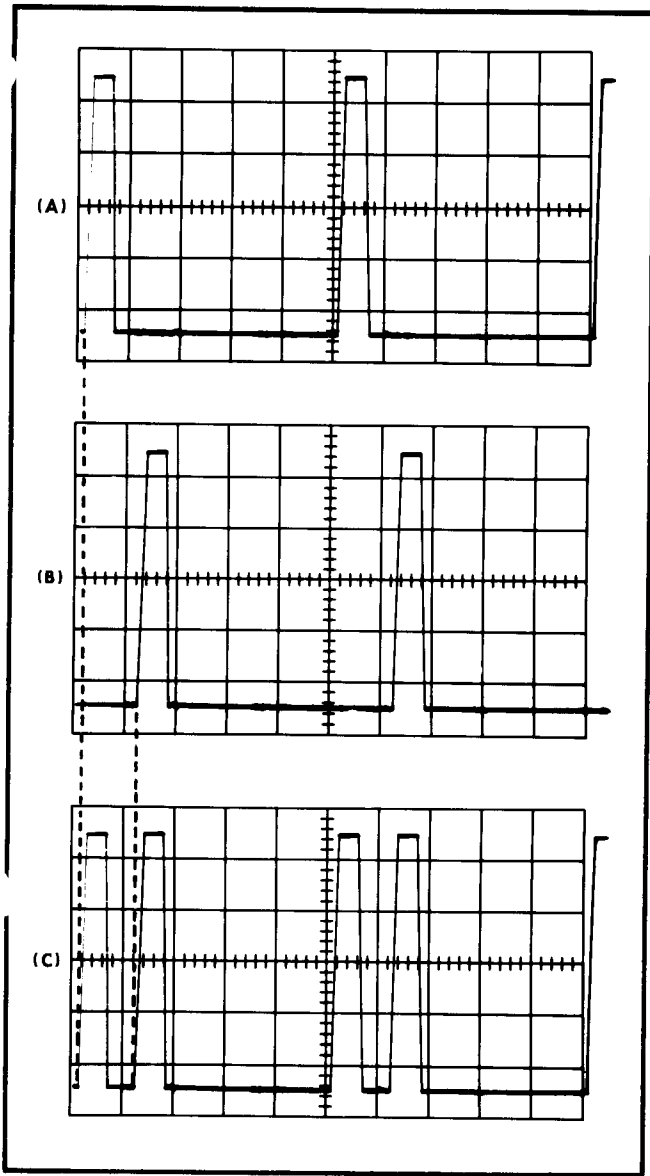

Fig. 2-6. Time comparison of output signals in three modes of operation: (A) Single; (B) Dly'd Single; and (C) Double.
31. Turn the MODE switch between the SINGLE, DLY'D SINGLE and DOUBLE positions. Note that the left pulse of each pair is at the position of the undelayed Single pulse and the right pulse of each pair is at the Dly'd Single pulse position (see Fig. 2-6).